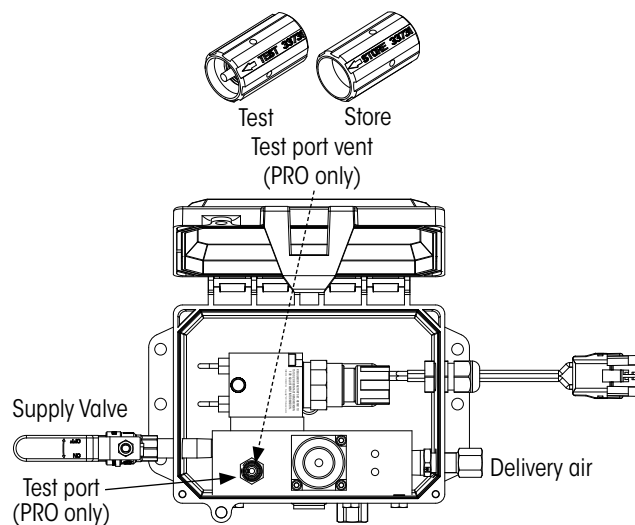

Figure 48: TIREMAAX® PRO controller with test port vent
- A. The current PRO controller includes a **test port vent tool** that threads into the test port (Figure 48) in the STORE position. To perform a lamp test:
- B. If included: **Open petcock** on controller (Figure 48) to generate air flow across internal flow switch.